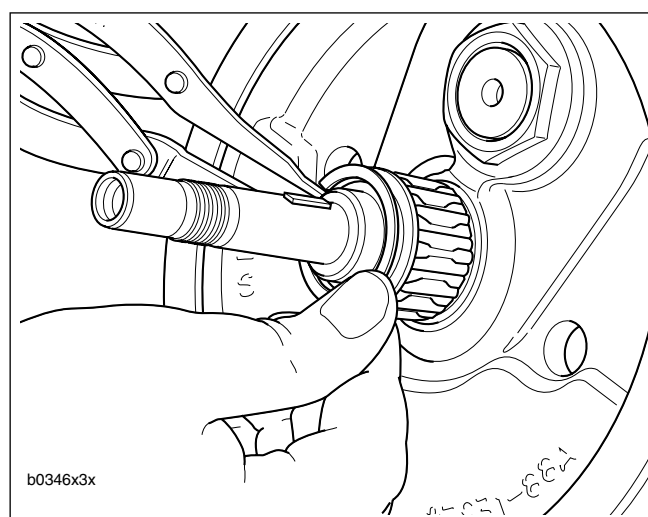

Figure 3-97. Pinion Shaft Bearing
12. See Figure 3-97. Install pinion shaft bearing.